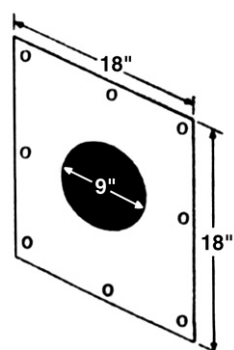

**Figure 9: Exterior Metal Enclosure**
*NOTE: If the INSUL-FLUE® is being installed into an exterior wall with an exterior masonry chimney, see special Instructions (see Figure 9).*
10. If in the event the INSUL-FLUE® is being installed into an exterior wall with an exterior masonry chimney and if you have any kind of space between the chimney and house it is important that this space be tightly enclosed. It is recommended that you purchase an Exterior Metal Enclosure. This is a metal frame that is installed just after you have made the framed hole in the wall (step 2) and before you mount the metal base onto the wall (step 3). The Exterior Metal Enclosure is made so that it can be secured to the wood frame of the house wall. As you insert the Exterior Metal Enclosure into position, make sure you slide it through the wall until it meets the exterior surface of the chimney. Then you secure it with nails to the wall. The holes have been predrilled in the exterior metal enclosure for your convenience. It is also recommended that you go on the outside of the house and caulk the points where the metal meets the chimney surface and also where the exterior house siding meets the metal. (See Figure 9)